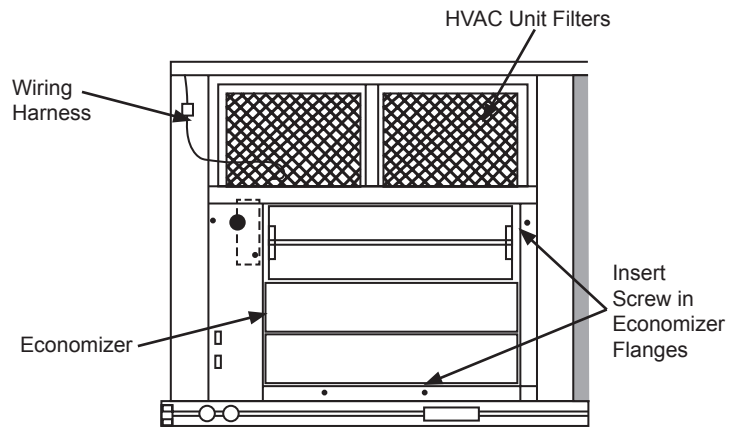
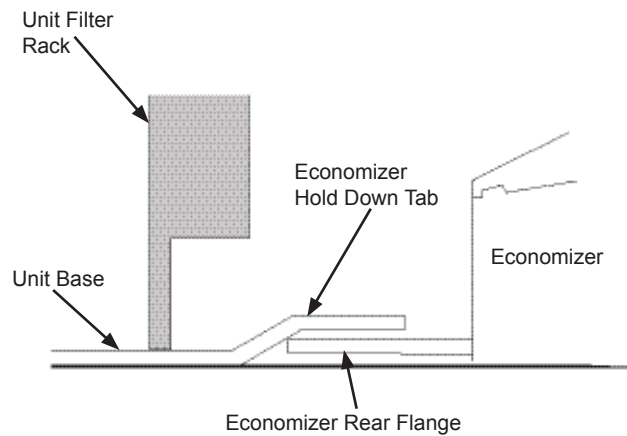

Fig. 6 - Economizer Installed in HVAC Unit (Small Cabinet Economizer Shown)
Fig. 7 - Rear Economizer Flange Installation (Small and Large Cabinet)
6. Slide the Economizer assembly into the rooftop unit. (See Fig. 6). On small and large cabinets be sure to engage the rear economizer flange under the tabs in the return-air opening of the unit base. (See Fig. 7)
7. Secure the economizer to unit along side and bottom flanges using the screws provided. (See Fig. 6)